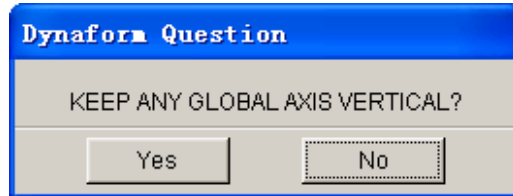

Figure 12.5.1 A DYNAFORM Question dialog window
- The DYNAFORM QUESTION dialog window appears as shown in Figure 12.5.1.